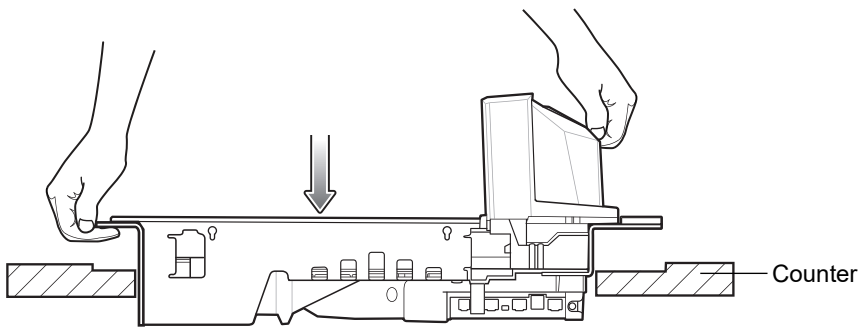

Figure 3-21 Lowering Short, Medium, Long MP70XX into the Counter
- a. To grasp the MP70XX to lower it into the checkstand, use the support handle on the back of the tower cover together with the front handle under the platter. See Figure 3-21 on page 3-19.